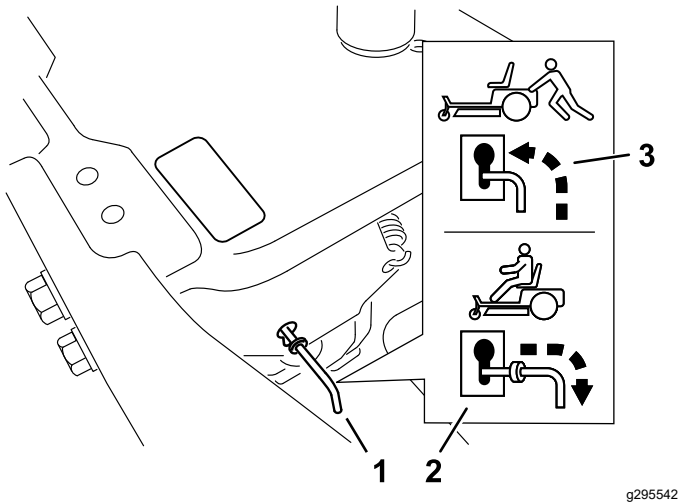

Figure 30
4. Move the bypass levers forward through the slotted hole and down to lock them in place (Figure 30).
Move the bypass levers rearward through the keyhole and down to lock them in place as shown in Figure 30.